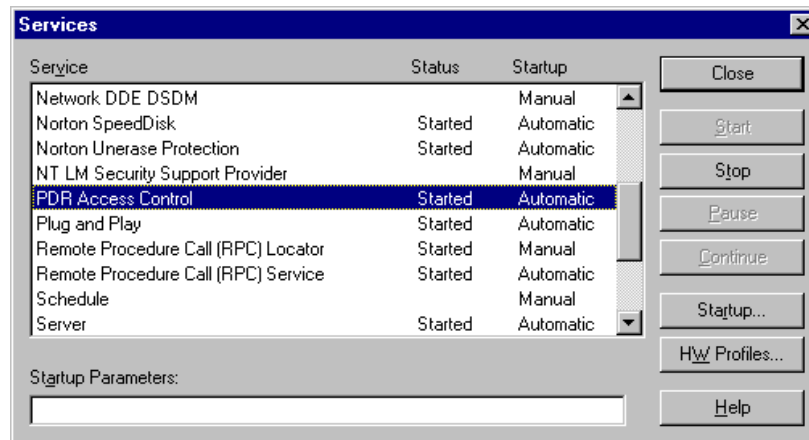

Figure 105. Services dialog box
4. Double-click the **Services** icon. The Services dialog box appears (Figure 105).